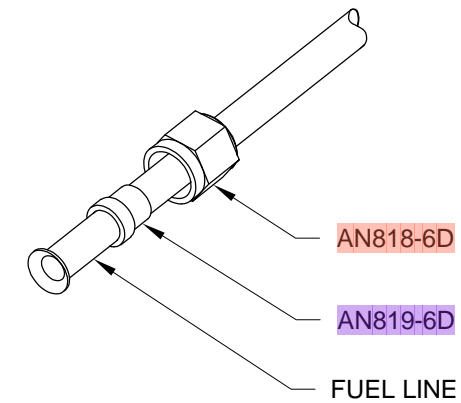

FIGURE 2: ASSEMBLE FUEL SUPPLY LINE
Step 6: Cut the fuel supply line to the length marked earlier. Slide a coupling nut over the end of the tube followed by a coupling sleeve and flare the end of the tube as shown in Figure 2.